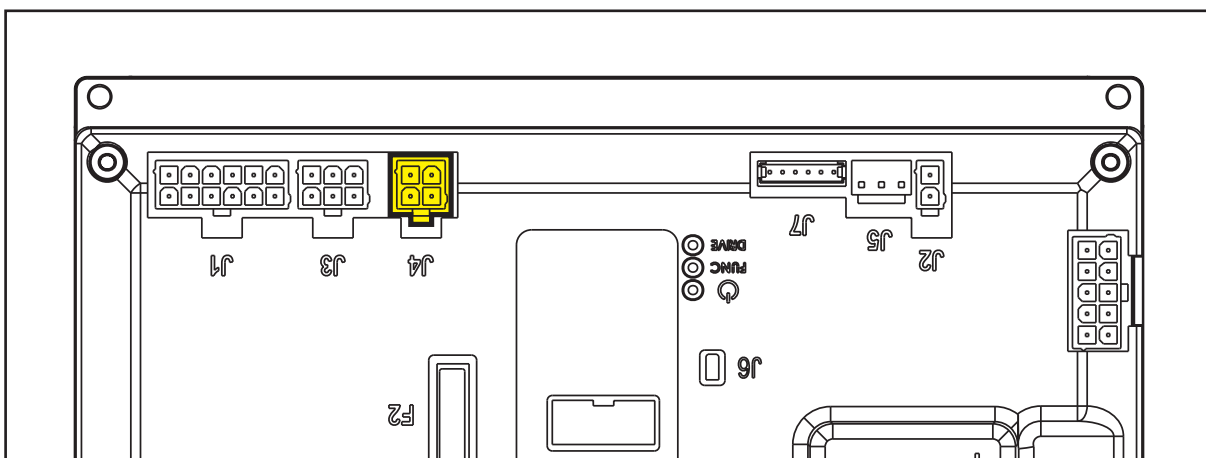

Figure 26
**(Figure 26) J4: MOLEX MINIFIT type, 4-ways vertical**